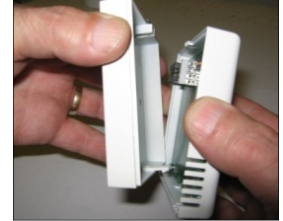

Fig 12
- Step 1** Using a screwdriver undo the screw on the top of the remote control case and pull the back case away (see Fig 12).